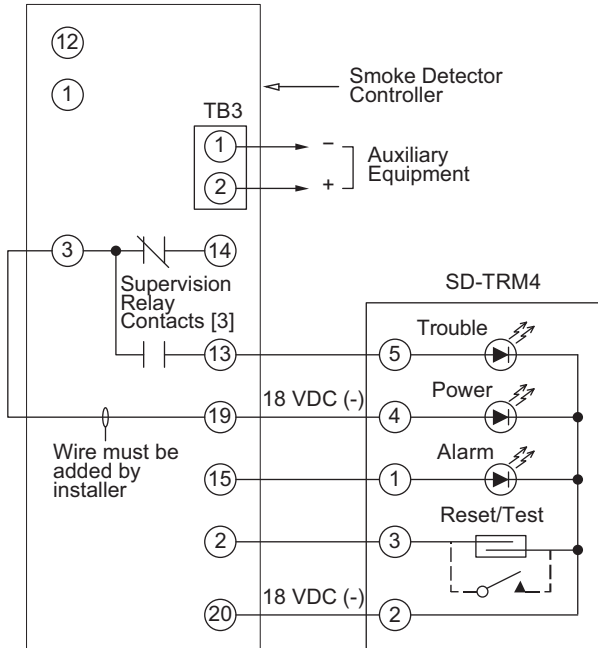

Fig. 49 — Remote Test/Reset Station Connections
The test/reset station dirty sensor test checks the test/reset station's ability to initiate a sensor dirty test and indicate the results. It must be wired to the controller as shown in Fig. 49 and configured to operate the controller's supervision relay. For more information, see "Dirty Sensor Test" on page 28.
1. Verify that the remote test/station is wired as shown in Fig. 49. Repair or replace loose or missing wiring.